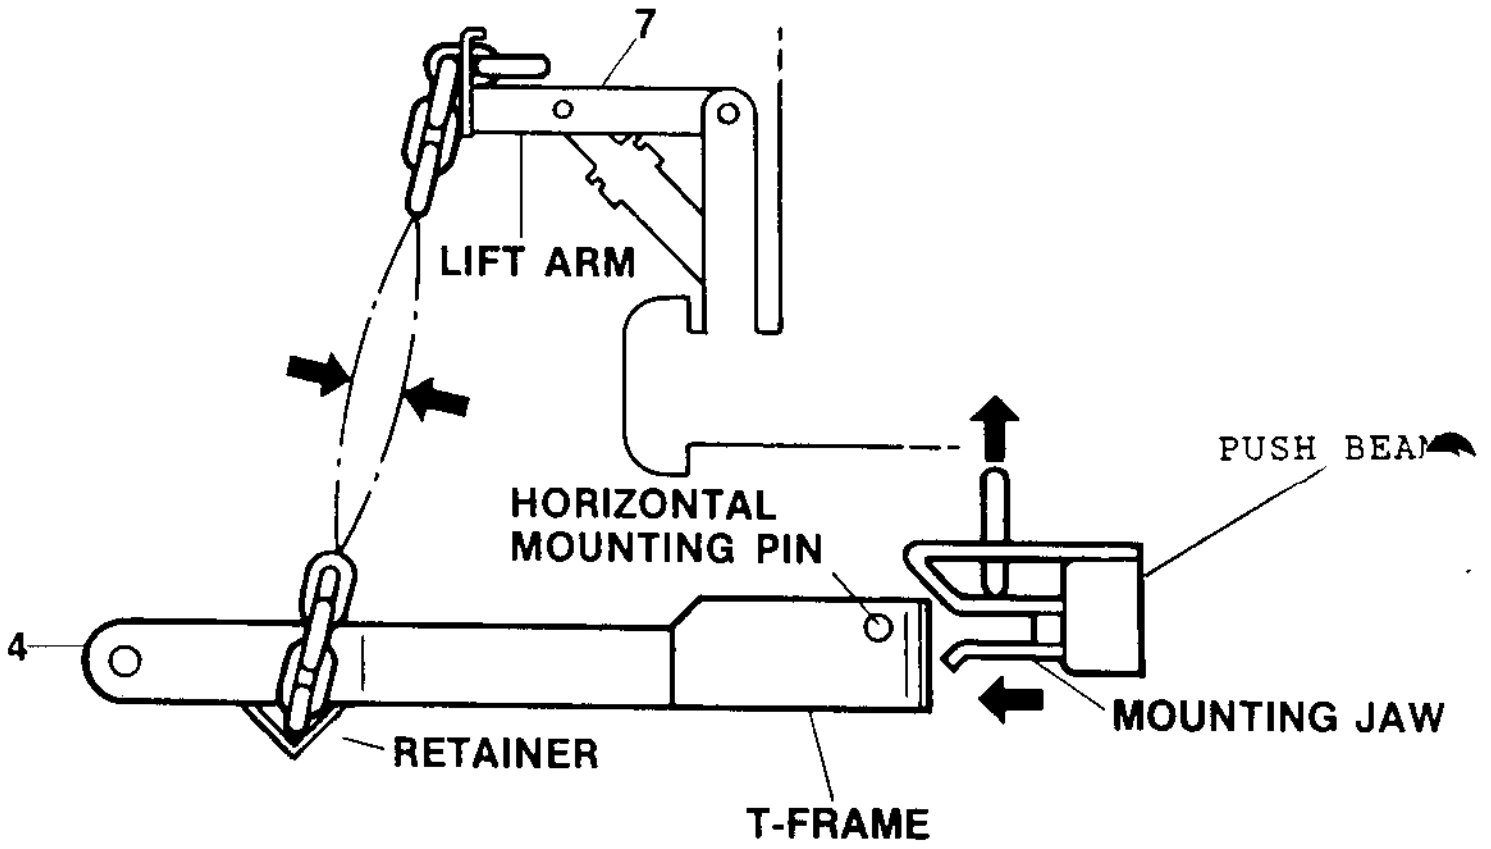

Figure 2
A) V-Plow Measure from the center of the HORIZONTAL MOUNTING PIN (See Figure 2) on the T-FRAME to the ground when the plow is in the vee position. Position the PUSH BEAM ASSEMBLY to the appropriate height so the MOUNTING JAWS (See Figure 2) will accept the HORIZONTAL MOUNTING PIN on the T-FRAME.
B) Straight Blade Plow The distance from the ground to the top of the lower mounting jaw should be approximately 11-1/2" (See Figure 2).